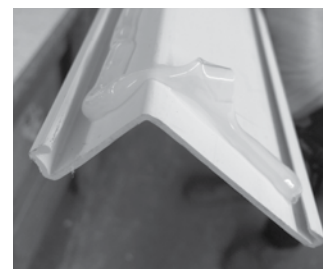

Figure 19
23. Prior to installing the mull cap, verify the length is correct and extends to the edges of the door frame and sidelite. Caulk the backside of the mull cap along the length (that rests on the frame) and up the sides 1" from the ends (**Figure 19**). Do not caulk the area that hooks over the fin. Center the mull cap across the top of the unit. Hook the rear of the cap over the nailing fin (**Figure 19a**). Be sure to press the cap on across its entire length to fully seat it. Caulk the seam between the mull cap and the mullion(s) (**Figure 19b**), and caulk all gaps at the ends of the mull cap (**Figure 19c**).